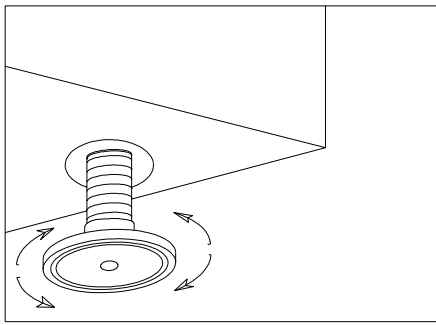

Fig. 1
- Level the appliance by turning the adjustable feet(Fig. 1).